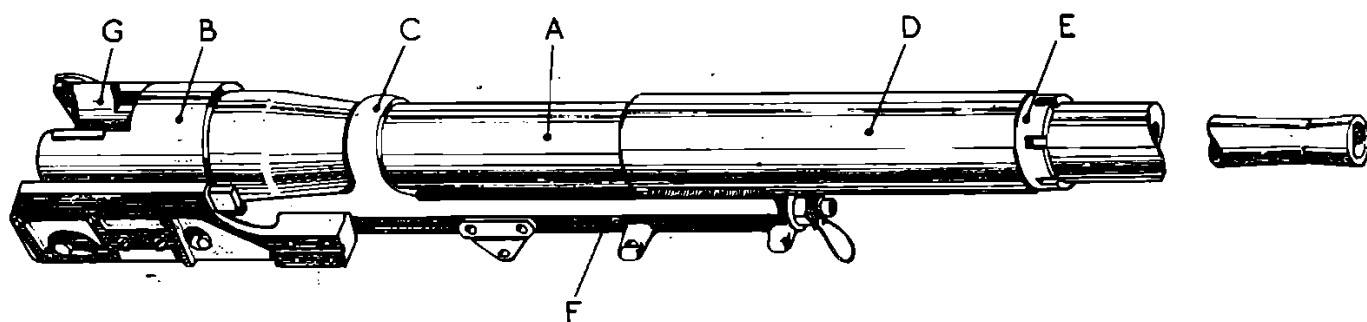

Figure 77. The Barrel Group
The barrel (see A, Fig. 77) is a one-piece forging with rifled bore threaded externally to screw into the breech ring (B).
The breech ring (B, see Figs. 77 and 45) is bored and threaded in front to receive the barrel (A), which is secured and located by a locking key. The lugs (B, Fig. 45) on the bottom of the breech ring, provide means for attaching the breech ring to the recoil mechanism (F). A further pair of lugs on the breech ring (C, Fig. 45) are bored to receive the lever arm shaft.